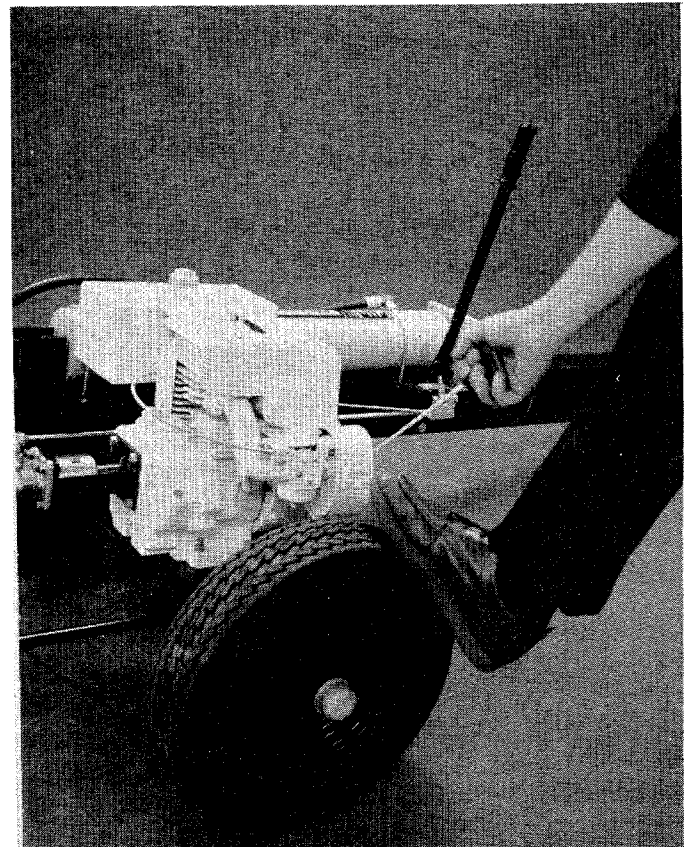

FIGURE 11
4. Rewind starter — place one foot on wheel and with a quick full arm stroke, keep firm grip on handle and return rope slowly. See figure 11.